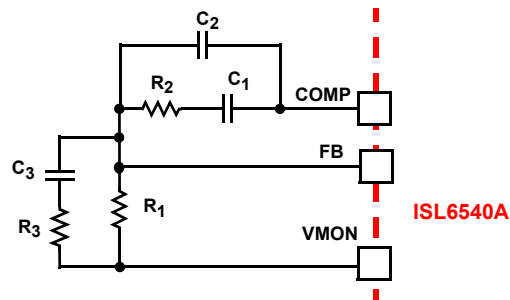
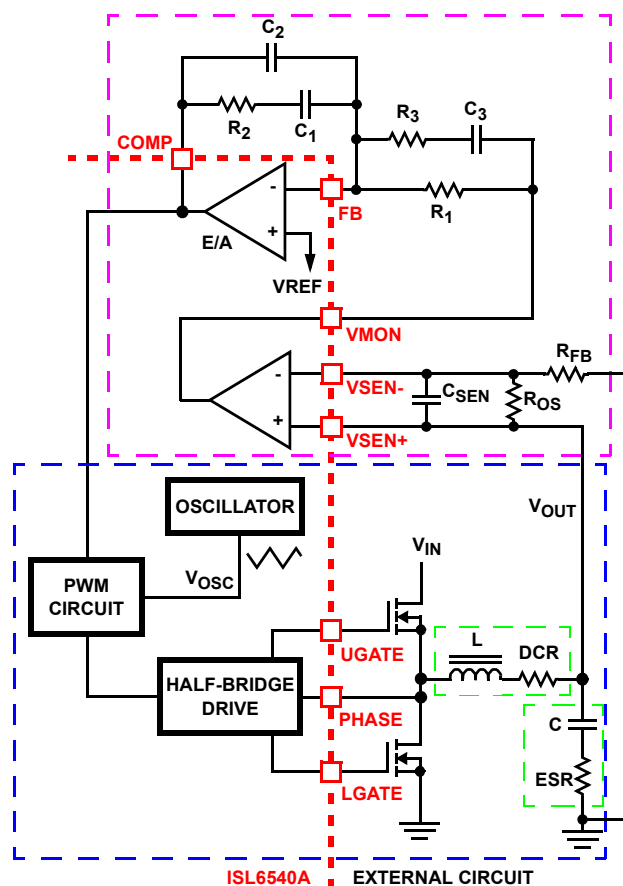

FIGURE 7. COMPENSATION CONFIGURATION FOR ISL6540A WHEN USING DIFFERENTIAL REMOTE SENSE
FIGURE 9. VOLTAGE-MODE BUCK CONVERTER COMPENSATION DESIGN
The ISL6540A single-phase converter is a voltage-mode controller. This section highlights the design considerations for a voltage-mode controller requiring external compensation. To address a broad range of applications, a type-3 feedback network is recommended (see Figure 7).
Figure 9 highlights the voltage-mode control loop for a synchronous-rectified buck converter, when using an internal differential remote sense amplifier. The output voltage (V_{OUT}) is regulated to the reference voltage, V_{REF} , level. The error amplifier output (COMP pin voltage) is compared with the oscillator (OSC) triangle wave to provide a pulse-width modulated wave with an amplitude of V_{IN} at the PHASE node. The PWM wave is smoothed by the output filter (L and C). The output filter capacitor bank's equivalent series resistance is represented by the series resistor ESR.
frequency (F_0 ; typically 0.1 to 0.3 of F_{SW}) and adequate phase margin (better than 45°). Phase margin is the difference between the closed loop phase at F_{0dB} and 180° . The equations that follow relate the compensation network's poles, zeros and gain to the components (R_1 , R_2 , R_3 , C_1 , C_2 , and C_3) in Figures 7 and 9. Use the following guidelines for locating the poles and zeros of the compensation network:
1. Select a value for R_1 (1k Ω to 10k Ω , typically). Calculate value for R_2 for desired converter bandwidth (F_0). If setting the output voltage to be equal to the reference set voltage as shown in Figure 7, the design procedure can be followed as presented. However, when setting the output voltage via a resistor divider placed at the input of the differential amplifier (as shown in Figure 9), in order to compensate for the attenuation introduced by the resistor divider, the below obtained R_2 value needs be multiplied by a factor of $(R_{OS}+R_{FB})/R_{OS}$. The remainder of the calculations remain unchanged, as long as the compensated R_2 value is used.
A small capacitor, **C_{SEN}** in Figure 9, can be added to filter out noise, typically **C_{SEN}** is chosen so the corresponding time constant does not reduce the overall phase margin of the design, typically this is 2x to 10x switching frequency of the regulator. As the ISL6540A supports 100% duty cycle, **d_{MAX}** equals 1. The ISL6540A also uses feedforward compensation, as such **V_{OSC}** is equal to 0.16 multiplied by the voltage at the VFF pin. When tying VFF to V_{IN}, the Equation 12 simplifies to: